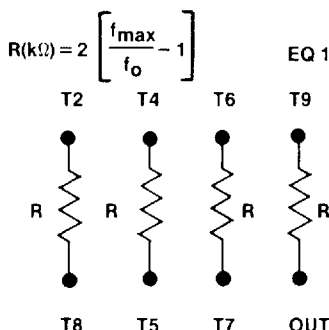

FIGURE 4.1: Connection of Resistive Tuning Components
Equation 4.1 calculates the common, theoretical value of the four equal-valued tuning resistors (R) shown connected in Fig. 4.1. The variables  $f_o$  and  $f_{\max}$  refer to a desired center frequency and the maximum permissible center frequency, respectively; values of  $f_{\max}$  for assorted 760 Series models are tabulated on Table 1.1 on this specification.